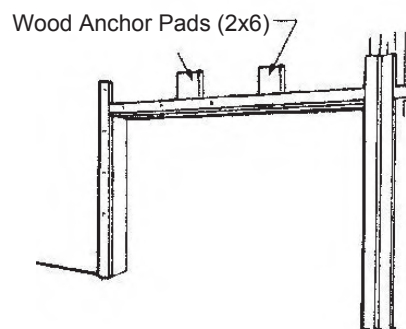

FIG. 15-A
- Using at least (4) long lag screws for wooden frames (or (4) 3/8" x 4" sleeve anchors for concrete frames), attach (2) 2" x 6" wood anchor pads to the frame of the garage across the center of door. Fasteners should be located in each corner of anchor pad, but no closer than 1-1/2" from the edge. (Fig. 15-A).
*NOTE: Header and side jambs should extend 12" above the top of the opening for 12" radius and 15" above the top of the opening for 15" radius (Fig. 15-A). Wood anchor pad may be off center to width of the opening by up to 10" in either direction.*
- Slide the steel shaft coupler, a spring anchor bracket, torsion spring (left wound) with black winding cone, and black cable drum onto one section of the steel shaft (Fig. 15-B).
- Insert solid shaft key into coupler and tighten the two set screws (Fig. 15-C).
- Slide second spring anchor bracket, torsion spring (right wound) with red winding cone, and red cable drum onto the other side of the steel shaft (Fig. 15-D).